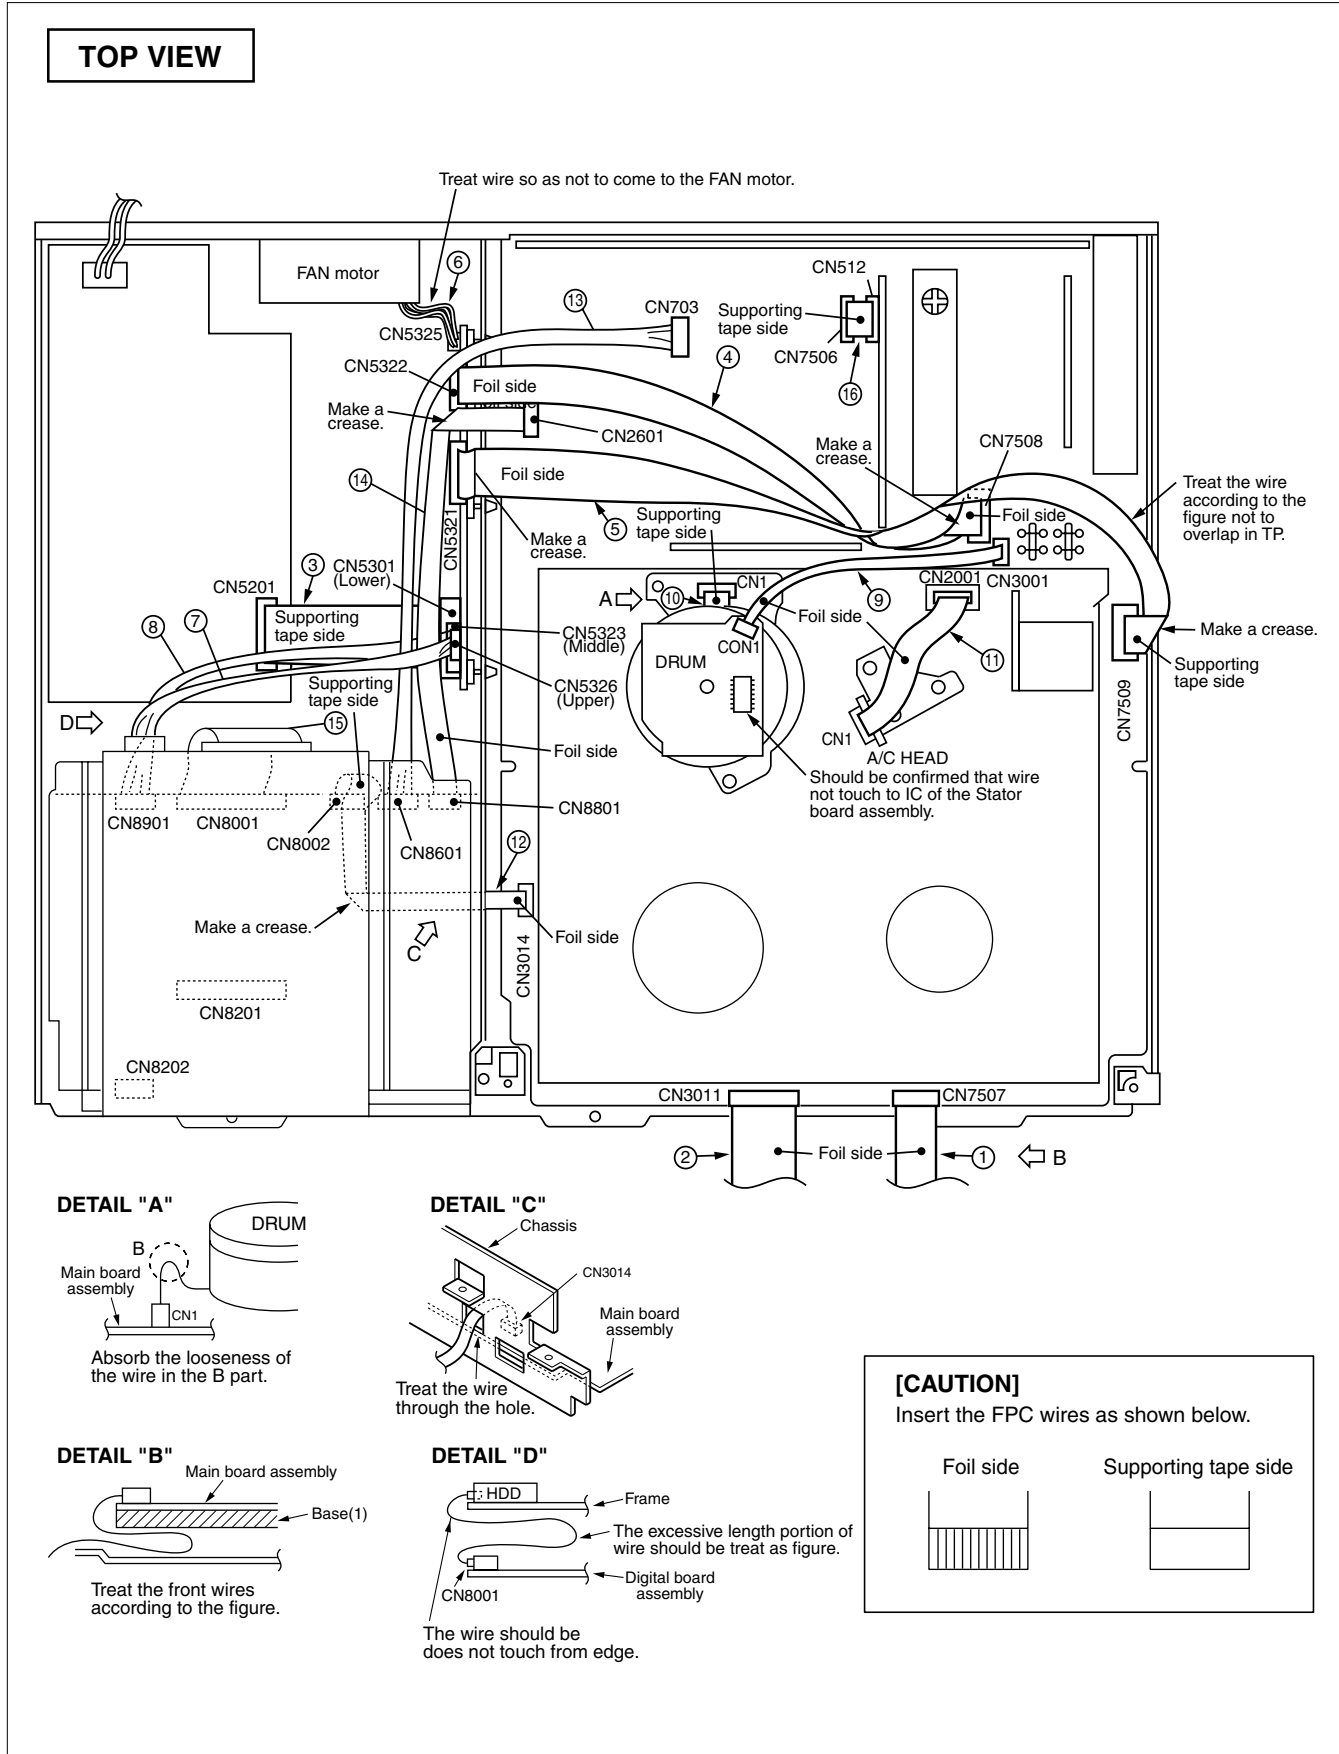

Fig. 1-10-1 Top view
- **The symbol numbers in the following table are special numbers indicating the service positions. They do not coincide with the symbol numbers used in Fig. 1-10-1 (1-10) or Table 1-10-1 (1-11).**